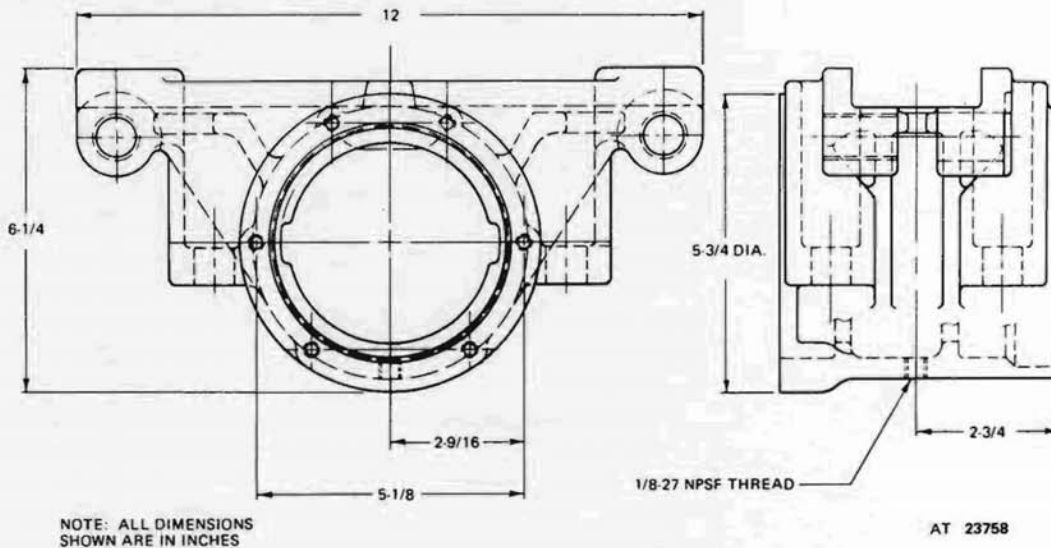

Figure 219.3 Drilling and tapping rear spring seat.
- (1) Drill hole through spring seat at location shown in figure 219.3.
- (2) Tap 1/8-27 NPSF thread.
- (3) Install plug.